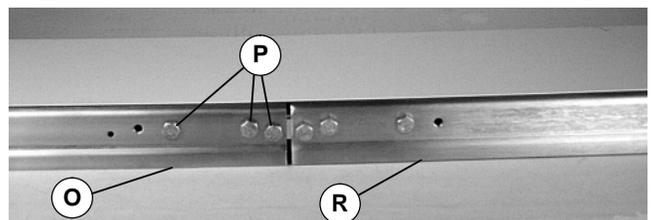

Figure 8
5. Join conveyor sections (O and R of Figure 8). Install screws (P) on both sides. Tighten to 92 in-lb (10.4 Nm).